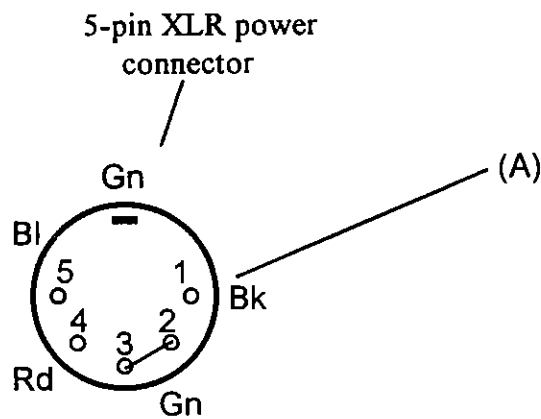

Fig. 14.
6. Locate pin 1 of the 5-pin XLR power connector and desolder the Black wire (A); *see Fig 14.* Solder the end of the Black wire to the other end of the Black wire that was attached to the V-Micro PCB. Solder the joined wires back into pin 1 of the XLR.